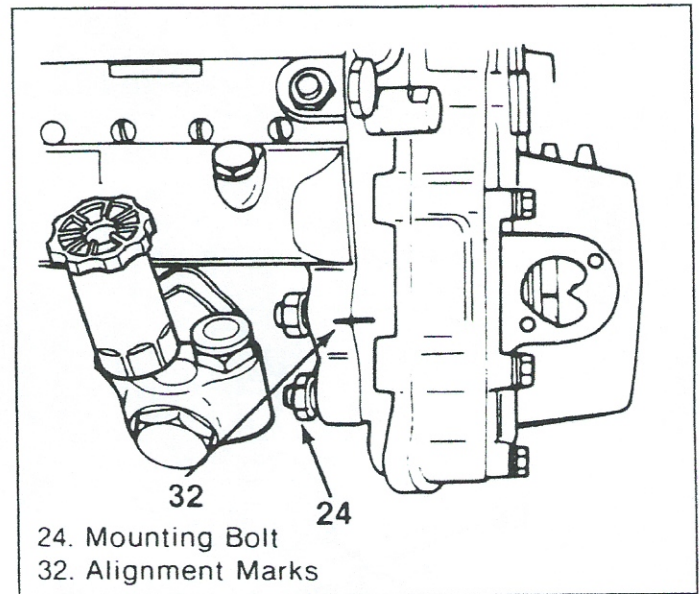

Figure 20. Alignment Marks
- Also align the marks on the injection pump and the timing gear housing (figure 20).
2. Injection pump mounting bolts (24).
3. Fuel delivery lines between the filter and the pump (22).
4. Accelerator cable (27).
6. Fuel return lines (21).
7. fuel injection lines (28).
8. Engine stop cable (25).
9. Hole cover on timing gear housing (23).
4. Check that the timer mounting bolts are tight (figure 20).
3. Loosen the four timer mounting nuts (figure 20).